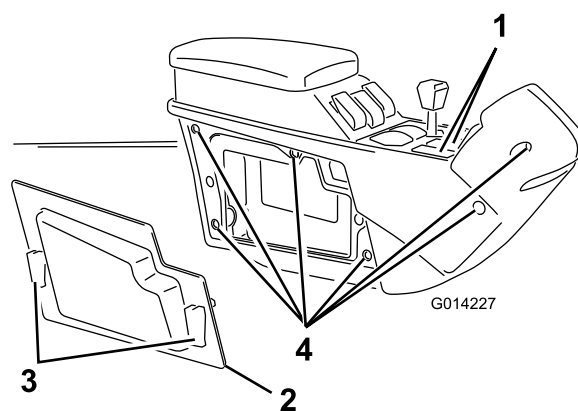

Figure 27
1. Remove the 2 foam marker switch hole plugs on the center console assembly (Figure 27).
2. Release the 2 quick latches and remove the right side panel on the center console assembly (Figure 27).
3. Remove the 6 bolts that hold the right side cover to the center console assembly (Figure 27).